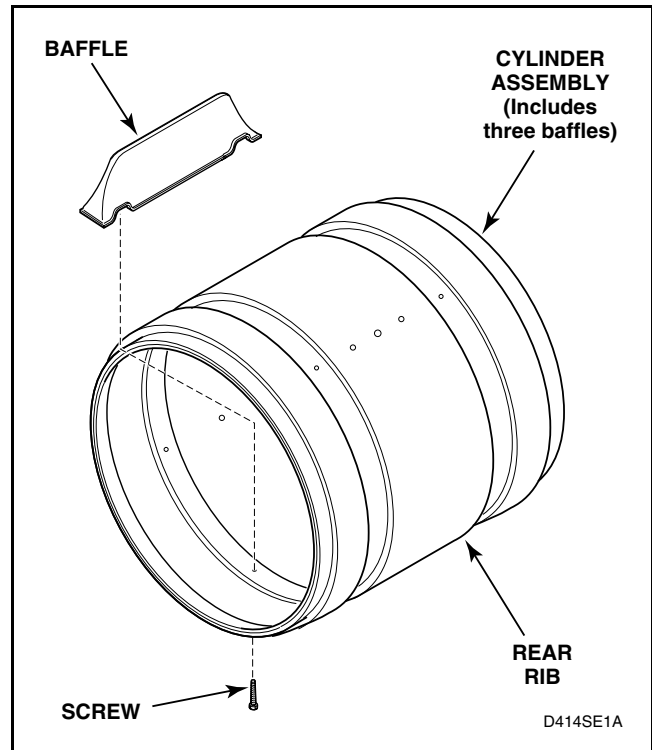

Figure 31
- i. Baffles – Remove screws holding baffles to cylinder. Refer to *Figure 31*.